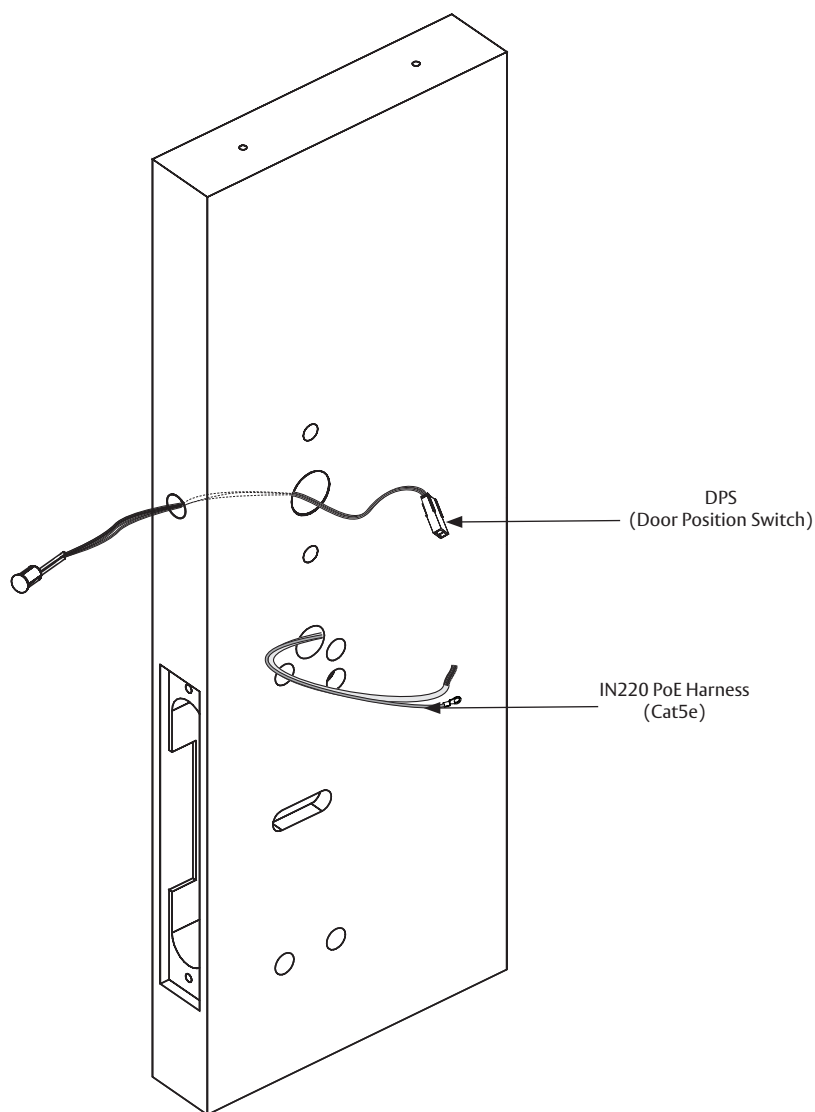

Figure 6-2
1. Insert connector end of DPS through the raceway on the latch edge of the door. (Figure 6-2)